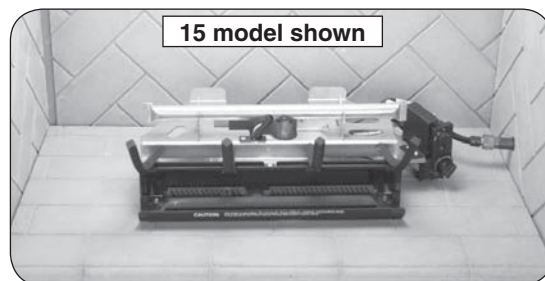

Fig. 16-2 Center burner in fireplace
4. Place the burner system in the fireplace. Center the burner in the fireplace. See Fig. 16-2.